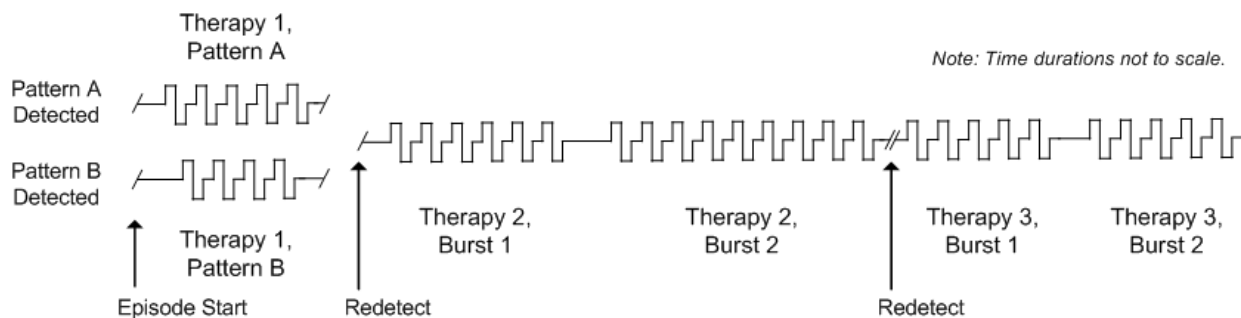

Figure 34: A THERAPY SEQUENCE DELIVERED IN RESPONSE TO A SPECIFIC EVENT DETECTOR
- Different bursts may be delivered in response to a specific event detector (Pattern A or Pattern B) as depicted in Figure 34; or